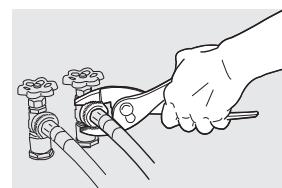

Fig. 6
- Tighten by hand until snug. Then tighten each supply connection another 2/3 turn with pliers. **Do not bend, kink or pinch water inlet hoses.** (Fig. 6).